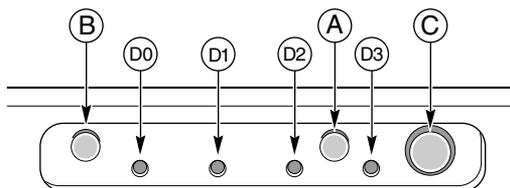

Figure 2 Front Panel Controls and Indicators
The following front controls and indicators are shown in Figure 2.
6. If the server does not turn on when you plug it into the AC outlet, press the power on/off button on the front panel. (See Figure 2 on page 6.)
7. Verify that the main power LED on the front panel is lit (see Figure 2 on page 6). After a few seconds, the power-on self test (POST) begins.
6. If you want to boot from a hard drive loaded with an operating system, make sure that the hard drive is installed and push the reset button on the front panel. (see Figure 2 on page 6.)